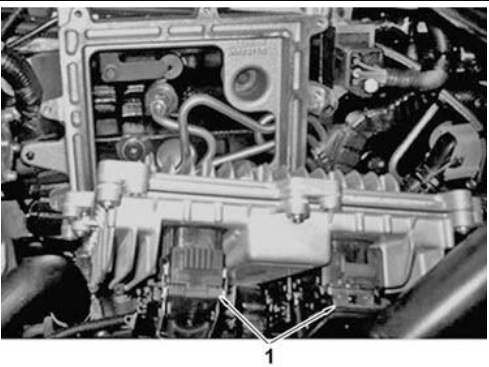

**Figure 5**
1. Bolt (8)
8. Fold ECM toward steer shaft for access to ECM bracket (do not remove ECM connectors) (Figure 5, item 1).